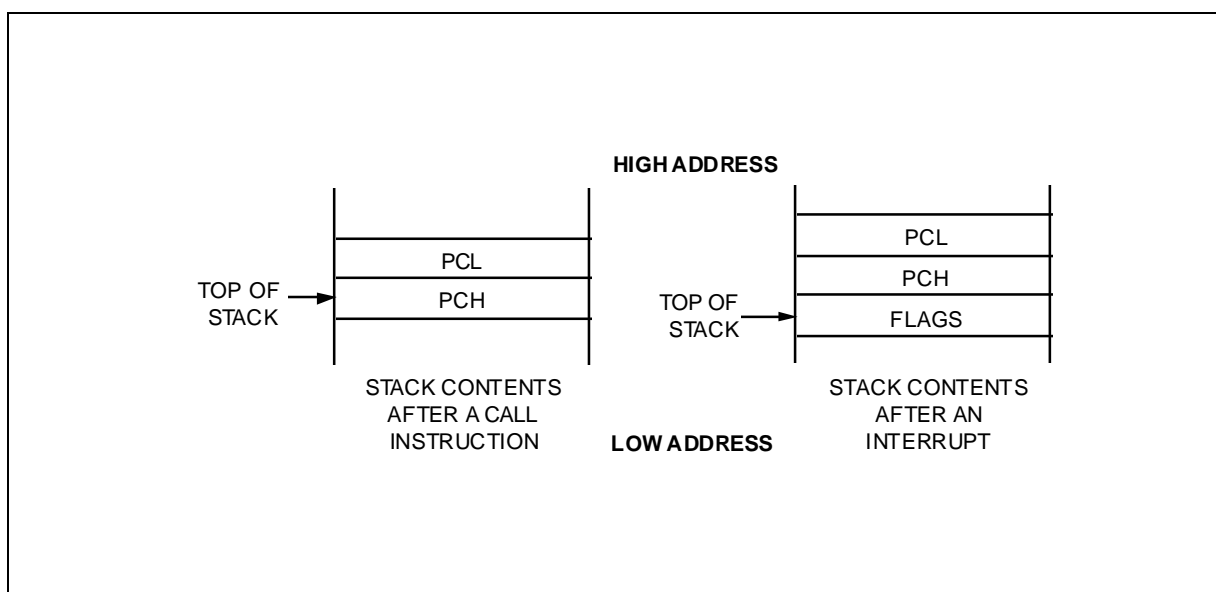

Figure 2-16. Stack Operations
The stack address is always decremented *before* a push operation and incremented *after* a pop operation. The stack pointer (SP) always points to the stack frame stored on the top of the stack, as shown in Figure 2-16.